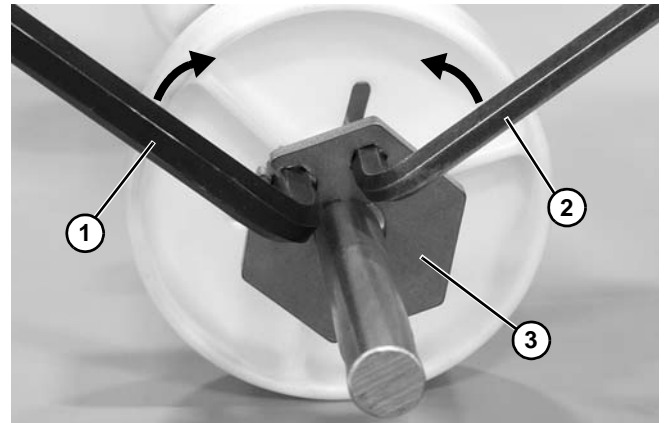

Figure 137
3. Insert an 8 mm (Figure 137, item 1) and 6 mm (Figure 137, item 2) hex wrench into the retainer plate.
4. Move wrenches toward each other to unlock the retainer plate (Figure 137, item 3) and remove from the shaft.